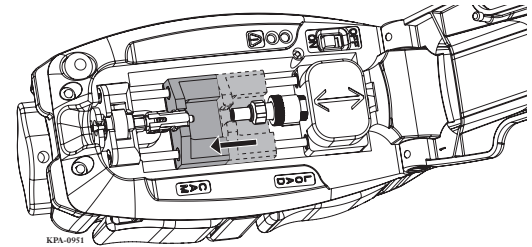

Figure 18 — Guide Connector into Cradle
Step 3: Slowly release the LOAD button while guiding the connector into the Connector Cradle (Figure 18). Ensure the connector is firmly seated in the Cradle.